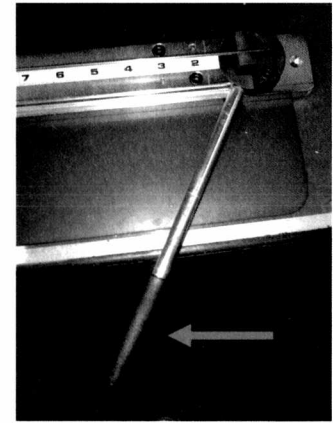

Figure 10.
- 10.) Before bending the wire, MAKE SURE the handle is down or in a vertical position as shown (Figure 10). If the handle is in a horizontal position, the wire will be bent backwards.